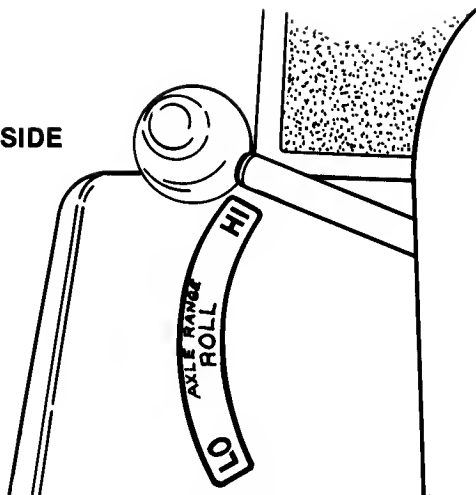

FIG. 4 - AXLE RANGE SELECTOR ON LEFT
1. Before releasing the Clutch/Brake pedal, shift the axle into HI(fast) or LO (slow) range with the selector located to the left of the operator's seat (figure 4). NOTE: To avoid gear damage, DO NOT shift axle range with machine in motion! It may be necessary to rock tractor slightly forward or reverse to shift.